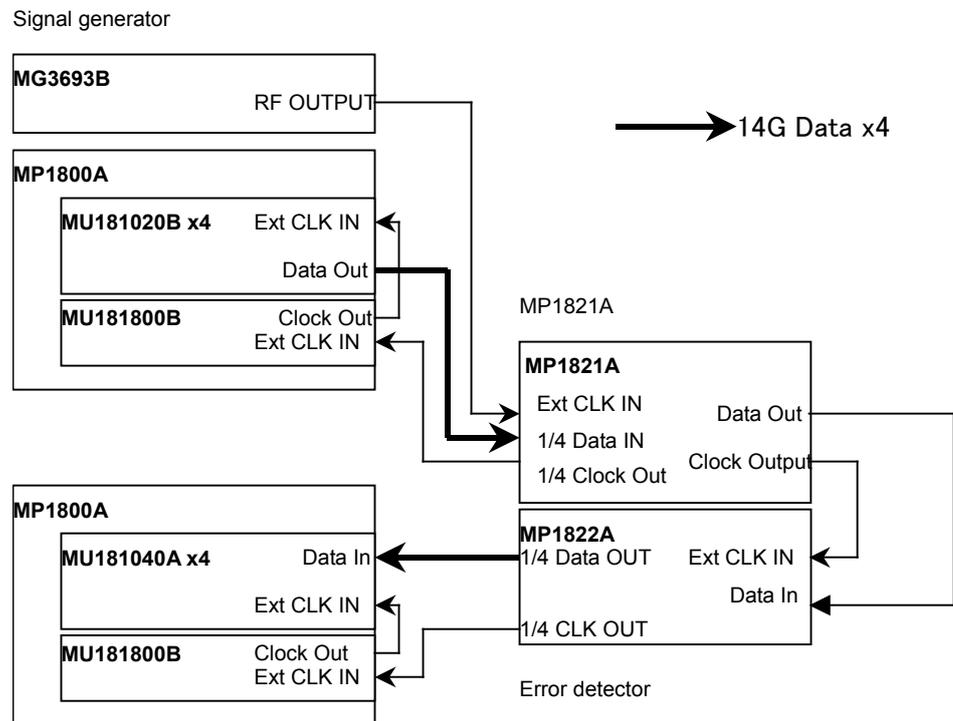

Figure 6.3.1-1 Connection Diagram for Operating Frequency Range Test
Figure 6.3.1-1 shows the example of connection MP1821A, MU181020A/B (MU181020A/B-x02, x11, x30), MP1822A, MU181040A/B (MU181040A/B-x02, x30), MU181800A/B, and MG3693B.
1. Connect each measuring instrument using cables as shown in Figure 6.3.1-1.